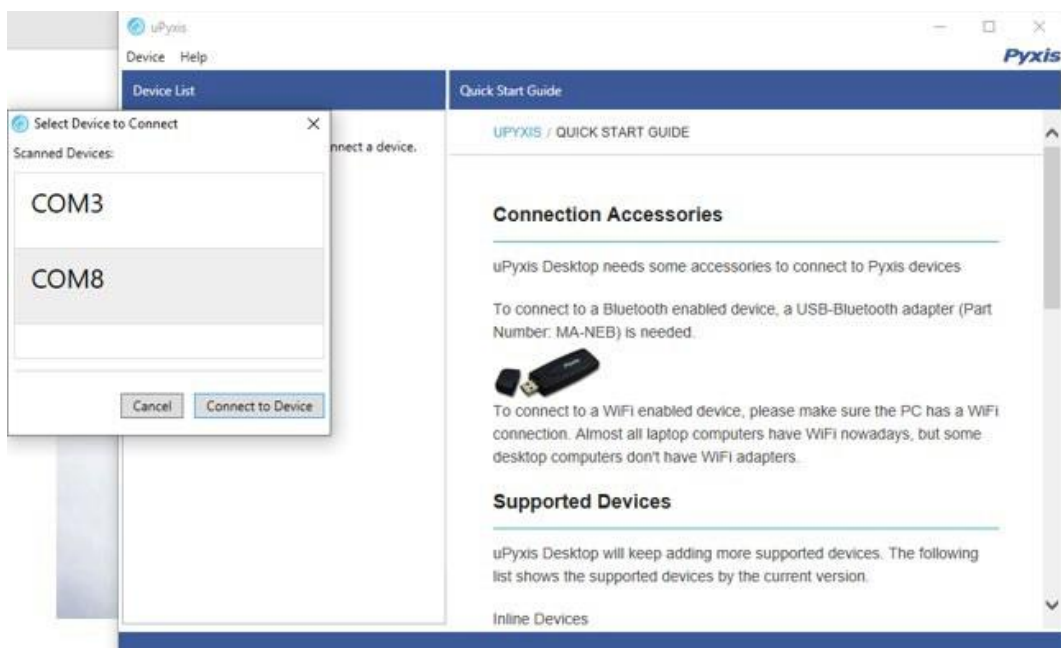

Figure 17 - Select a Comm port
- 7) Select the Comm Port to make a connection. Normally only one Comm port is identified by uPyxis (Figure 17). If more than one Comm port listed in the selection dropdown, you may try to select each one to see if a connection can be made. Alternatively, you may use the Windows Device Manager to identify the Comm Port that the Pyxis USB adapter is using.